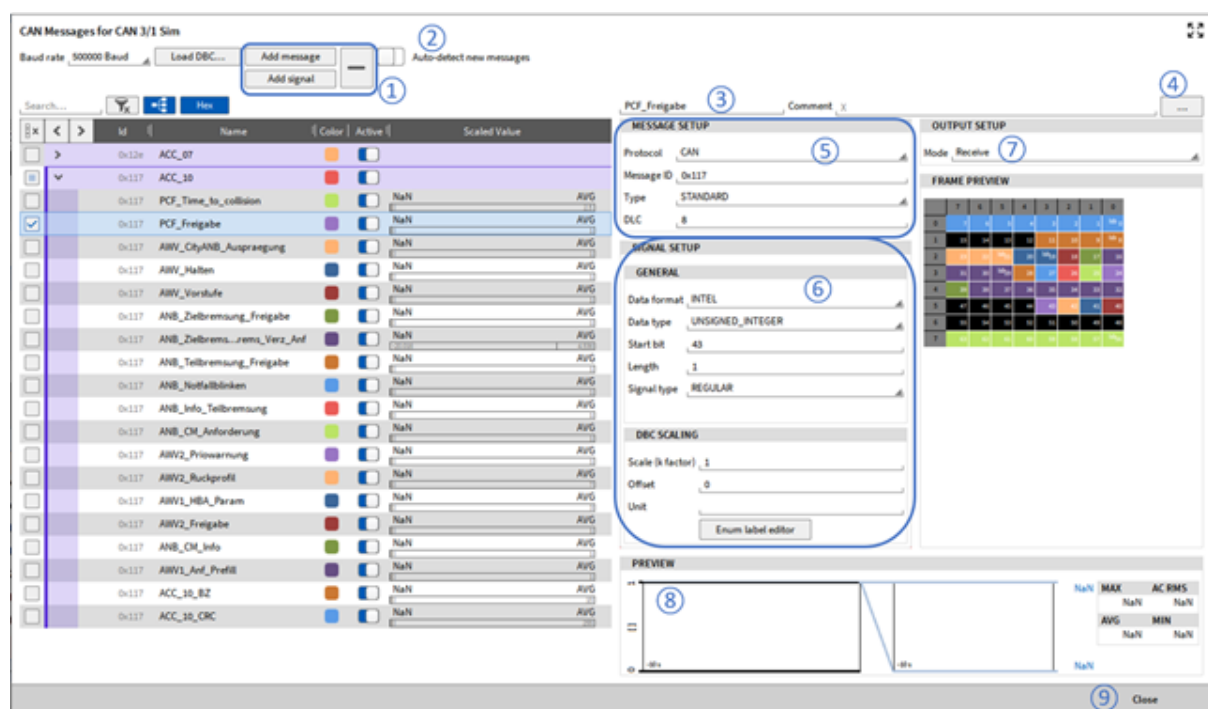

Fig. 7.211: CAN editor overview
- Manually add or delete CAN messages and signals (see ① in Fig. 7.211).
- Scan for CAN messages, which will automatically be created with their ID and DLC. After the scan, a name can be given and signals can be created (see ② in Fig. 7.211).
- Rename the currently selected CAN message and signal (see ③ in Fig. 7.211).
- Add comments to messages and signals (see ④ in Fig. 7.211).
- Edit CAN messages and access the same settings as described in section *CAN message setup* (see ⑤ in Fig. 7.211). With the enum label editor a text label can be defined for a specific, unique signal value which is then shown in the digital instrument (see also *Enum scaling*).
- Edit CAN signals and access the same settings as described in *CAN signal setup* (see ⑥ in Fig. 7.211).
- Set the CAN Message mode to Receive for acquiring data or transmit for outputting OXYGEN data over CAN (see ⑦ in Fig. 7.211).
- Providing a preview of the past 10 seconds of the signal to check if proper settings have been applied to the signal (see ⑧ in Fig. 7.211).
When finished you can exit the CAN editor again by pressing the Close button (see ⑨ in Fig. 7.211).